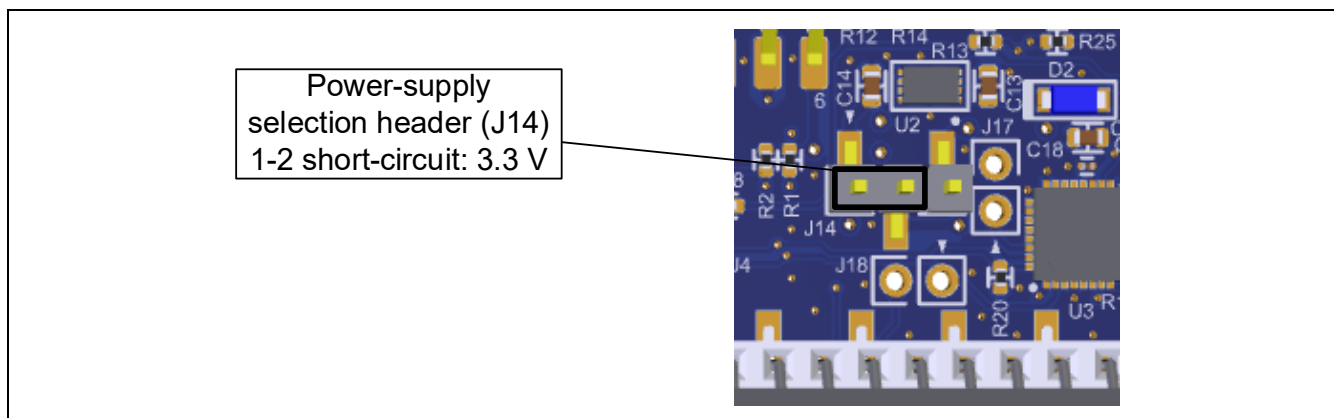

Figure 5-18 Setting of the Header to Select a 3.3-V Power Supply
- 1-2 of J14 being short-circuit selects a 3.3-V power supply. This is the default setting as shipped (Figure 5-18).